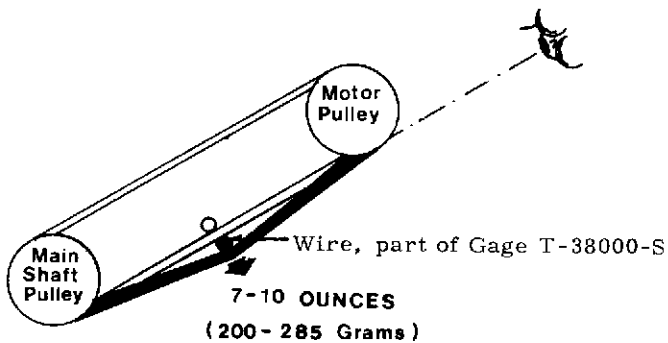

Figure 3-30. MOTOR DRIVE BELT TENSION
- b. Swing roller down and hook wire about center between pulleys as shown (Fig. 3-30), pull to deflect center of belt equal to belt plus diameter of wire.